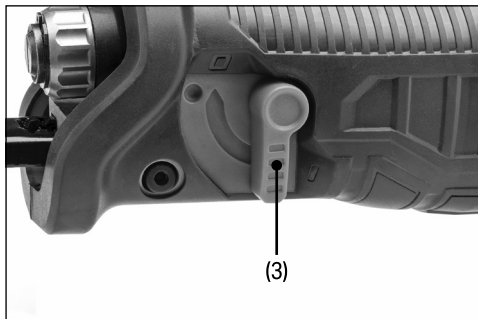

Fig. 6
- To release a blade turn the quick change blade knob (2) anticlockwise and pull the blade out.
7.3 Orbital Selection Switch – Fig.6